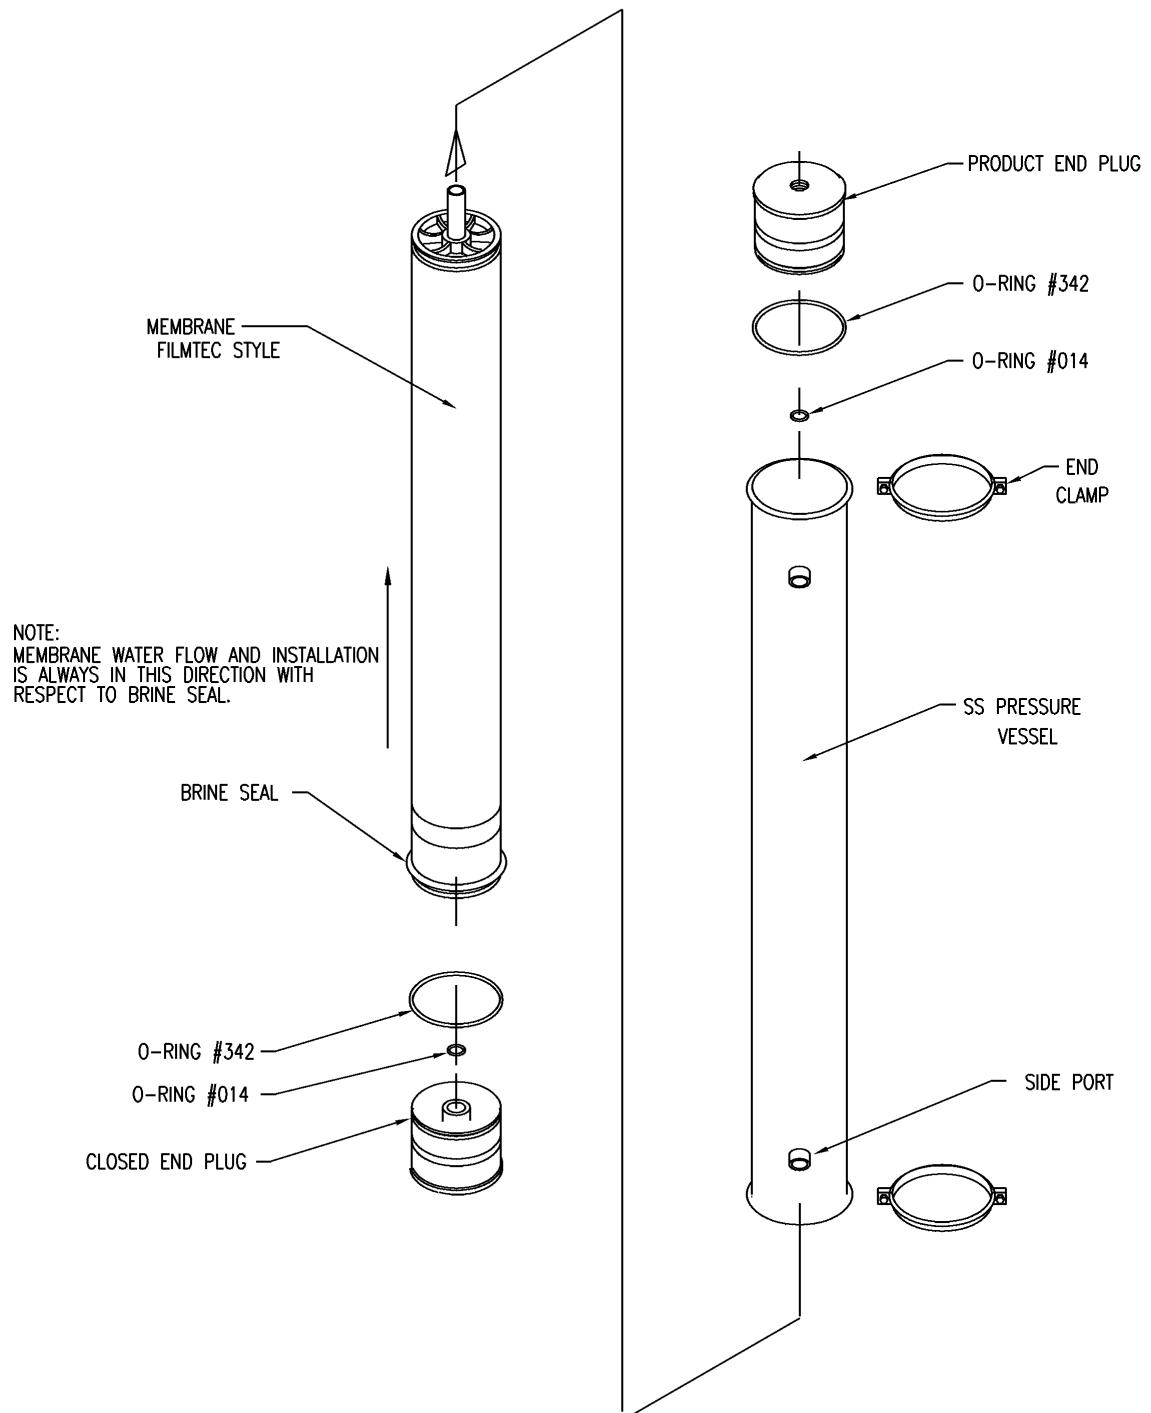

Figure 4. SS Vessel/Membrane Assembly
7.3 MEMBRANE REPLACEMENT (See Figure 4)
- * Remove the end plug retaining clamps by removing the clamping bolts. See Figure 4.
- * Lubricate the brine seal on the inlet end of the new membrane. Install new membrane into the feed end of vessel in the direction shown in Figure 4 (from left to right). Be sure to note the brine seal end.